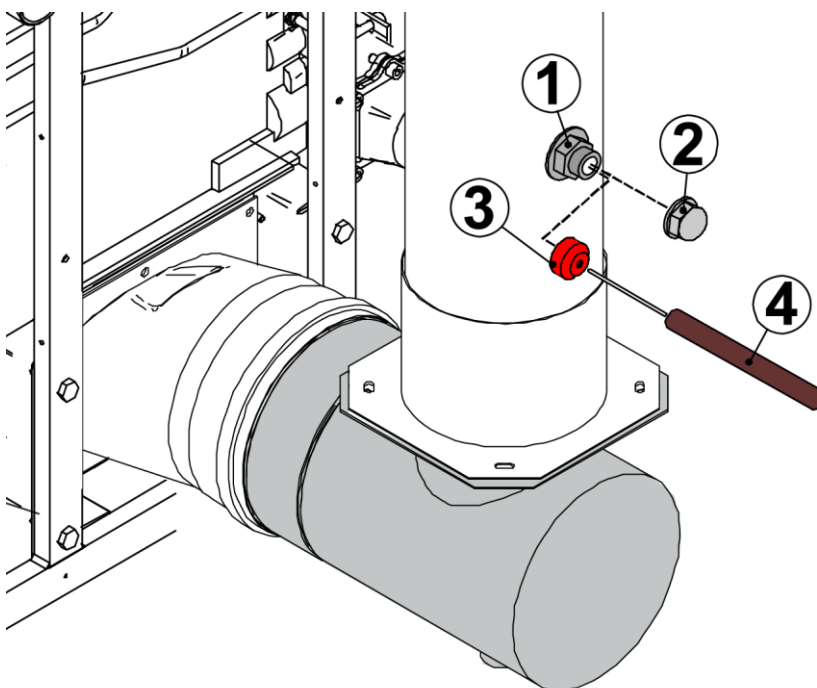

Figure 4-33: Gas Analyzer Probe Location in Flue Outlet
After installing the gas analyzer probe (Figure 4-33), refer to Figure 4-38 to locate the gas valves and the Maximum Gas Adjustment screw (A) on each valve. Follow the instructions below to set the maximum gas output level for each valve.
1. Remove the cap of the combustion gases sampling point (Figure 4-33) and connect a suitable gas analyzer.